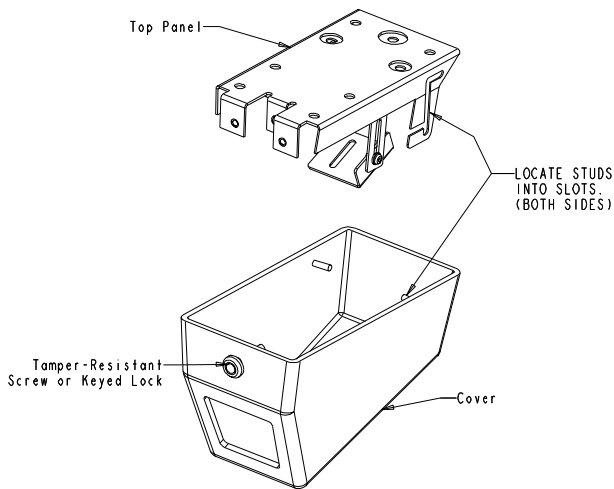

Figure 1: Removing the cover
2. Non-locking models require the use of the special tool (included) to unscrew the tamper-resistant screw on the front of the cover. See figure 1.
Locking models require the use of the key to unscrew the lock on the front of the cover. **See figure 1.**